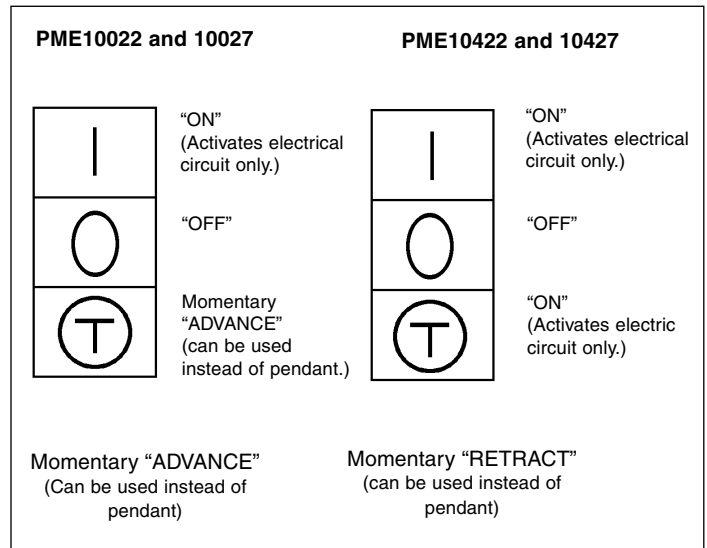

Figure 5, Pump Switch Positions
4. Be sure the pump switch is “OFF.” (See Figure 5.)